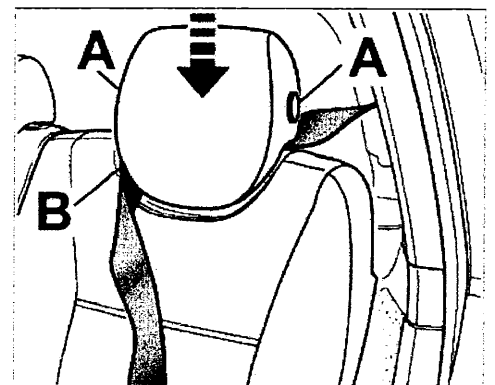

Figure 3
8. Press the button (Figure 3, Item A) on the right or left side of the left headrest on the backrest and press the headrest down fully (Figure 3, Arrow).
10. Route the seat belt behind the left headrest on the backrest and secure under the headrest at this position (Figure 3, Item B).